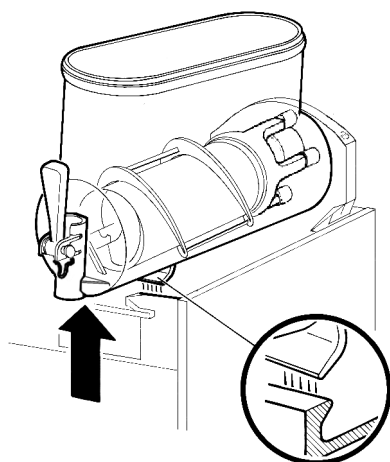
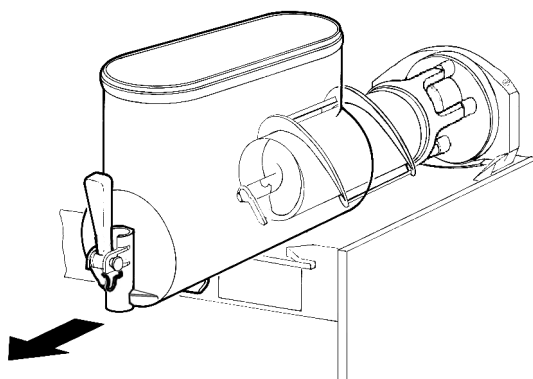

figure 6
figure 7
- 2 - Remove the bowl by lifting its faucet side up and off the fastening hooks (see figure 6) and slide it out (see figure 7).